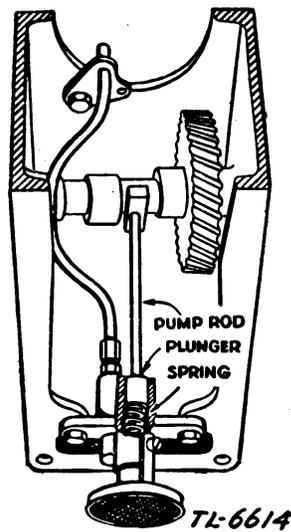

FIGURE 18. Oil pump.
f. Oil pump (fig. 18). The oil pump is attached to the crankcase with two bolts and lock washers, and is operated from an eccentric on the cam gear. A defective pump will lead to insufficient lubrication, which may result in scoring the cylinder and the piston assembly. To check the oil pump, remove the base and the two bolts that hold the pump in place. Place the pump in a pan containing oil about 1/2-inch deep. Work the plunger up and down. If the pump is in good operating condition, a stream of oil will be forced out of the hole in the pump plunger. If the pump is clogged, remove the plunger and plunger spring, and submerge the parts in gasoline or kerosene for 3 or 4 hours to loosen any accumulated sludge or gum. If the pump is still inoperative, replace it. In assembling, be sure that the spring and plunger are in place, as shown in figure 18.